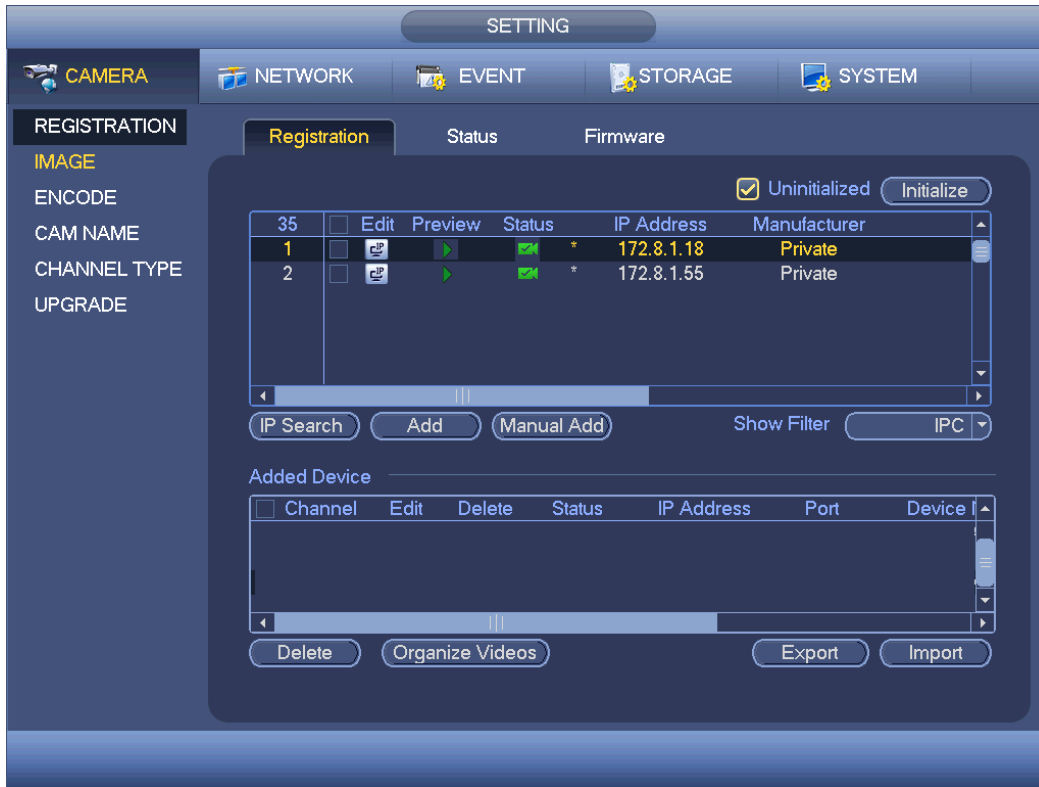

Figure 4-22
- Step 1 From main menu->Setting->Camera->Registration. Enter Registration interface. See Figure 4-22.